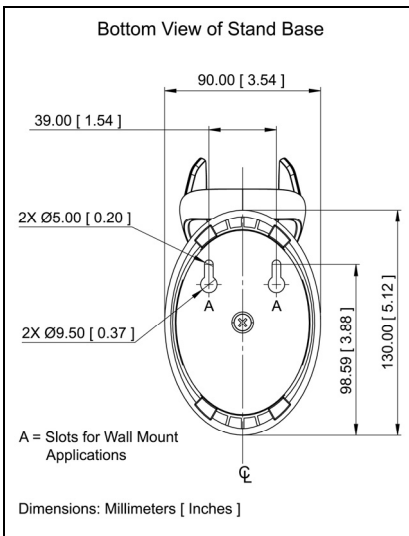

Figure 14.
3. Locate the two slots marked as "A" on the stand base in *Figure 14*.